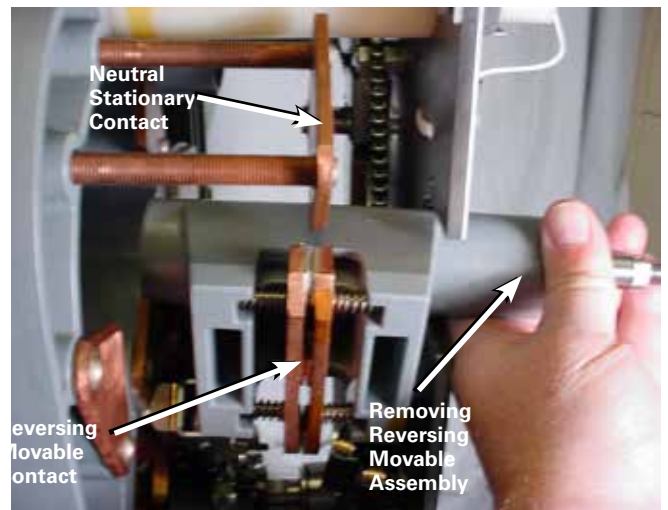

Figure 63. Removing reversing movable contact.
9. Rotate the reversing movable contact counter clockwise until the movable contact assembly disengages from the reversing neutral stationary contact and remove it from the tap-changer. See Figure 63.